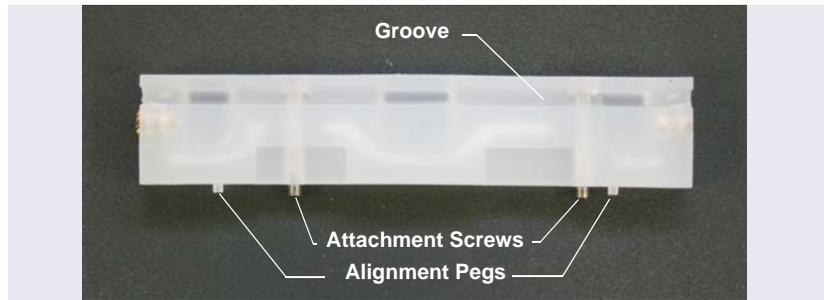

Figure B-32. IC Cube Guide
- a. Note that one side of the guide is grooved (see Figure B-32). Also, note the two alignment pegs and the two attachment screws on the bottom of the guide.